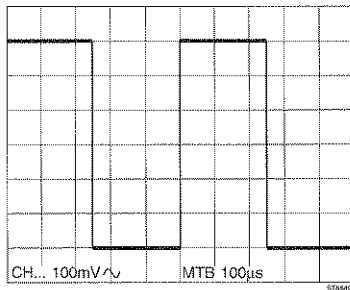
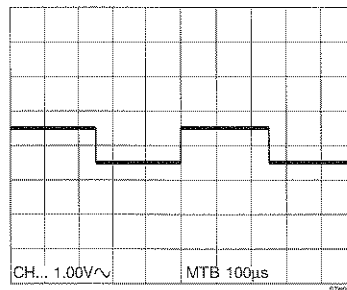

Figure 3.3
Figure 3.4
- Verify that a square wave as indicated in Fig. 3.3 is displayed; in case of an AMPL toggle key on CH3/CH4, the vertical amplitude is 0.6 divisions instead of 6 divisions. The corresponding display is shown in Fig. 3.4.
- Turn the POS control CCW until the display of Fig. 3.3 or Fig. 3.4 is obtained again.
- Press the AC/DC/GND key so that ac input coupling ($\sim$) is obtained. The waveform as indicated in Fig. 3.3 or Fig. 3.4 is displayed again.
- Verify that a square-wave as shown in Fig. 3.3 is displayed.
- Press the TRIG 1 key again and verify that the displayed square-wave starts with a positive-going slope as indicated in Fig. 3.3.
- Select 100 μ s/division with the MAIN TB TIME/DIV keys and verify that the square wave is displayed as shown in Fig. 3.3.